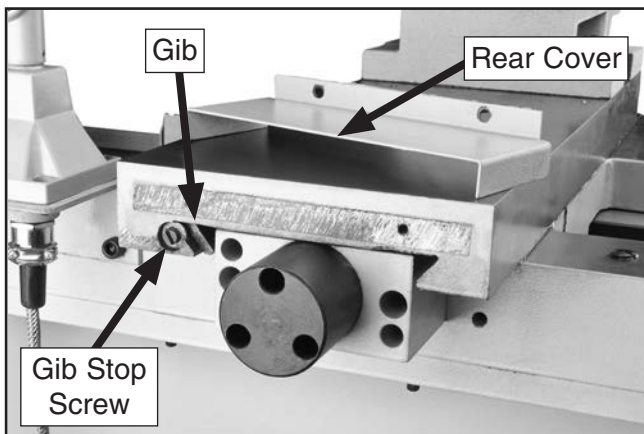

Figure 130. Cross slide gib stop screw.
6. To set the rear gib stop screw, remove the rear cover (see **Figure 130**), tighten the gib stop screw against the gib, then re-install the cover.